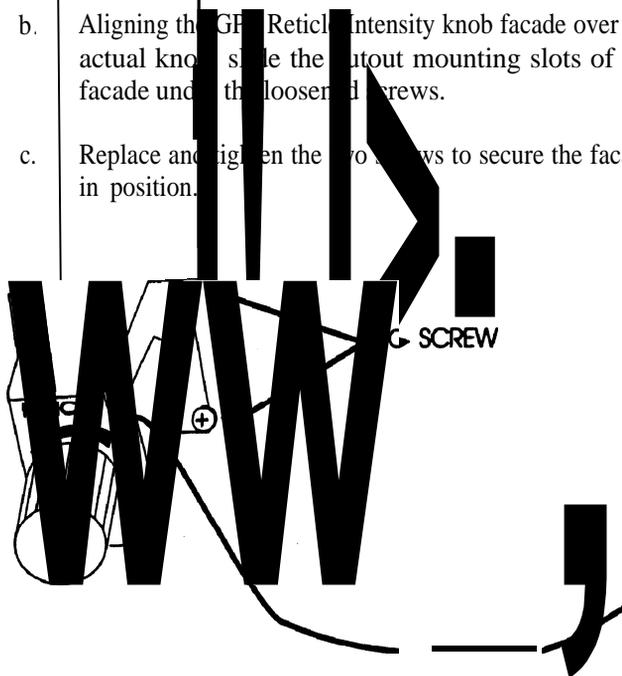

Figure 2-43. GPS Reticle Intensity Knob Facade
2.4.7.4.1.5 GPS Reticle Intensity Knob Facade Installation. The GPS Reticle Intensity knob facade is part of the **GPS** Control Panel facade, which also includes the GPS MAGNIFICATION lever, GPS **FLTR/CLEAR/SHTR** switch, and GPS Magnification lever facades. Install the GPS Reticle Intensity knob facade (see Figure 2-43) as follows: